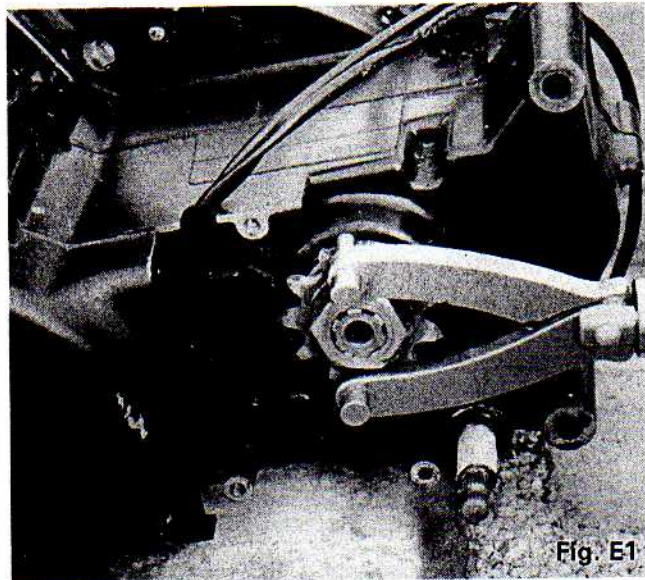

Fig. E1
- 18 Using a blunt cold chisel bend back the gearbox sprocket locking washer — Using tool No. 2 as shown in Fig. E1 to hold the sprocket, remove the gearbox sprocket nut (32 mm right-hand thread) — Remove lock washer, sprocket, spacer and rubber "O" ring.